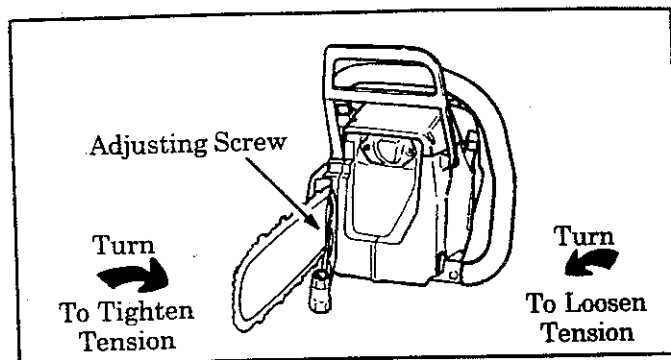

Figure 9
1. Lift up the tip of the guide bar and turn the adjusting screw clockwise until the chain does not sag beneath the guide bar. Figure 9.